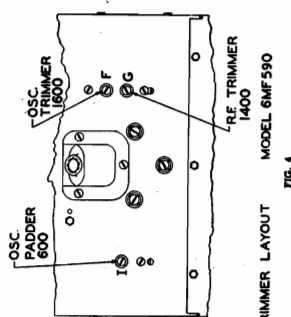

FIG. 4
4. The condenser gang is then rocked slightly while adjusting the 600 K.C. paddler I (see Fig. 4).